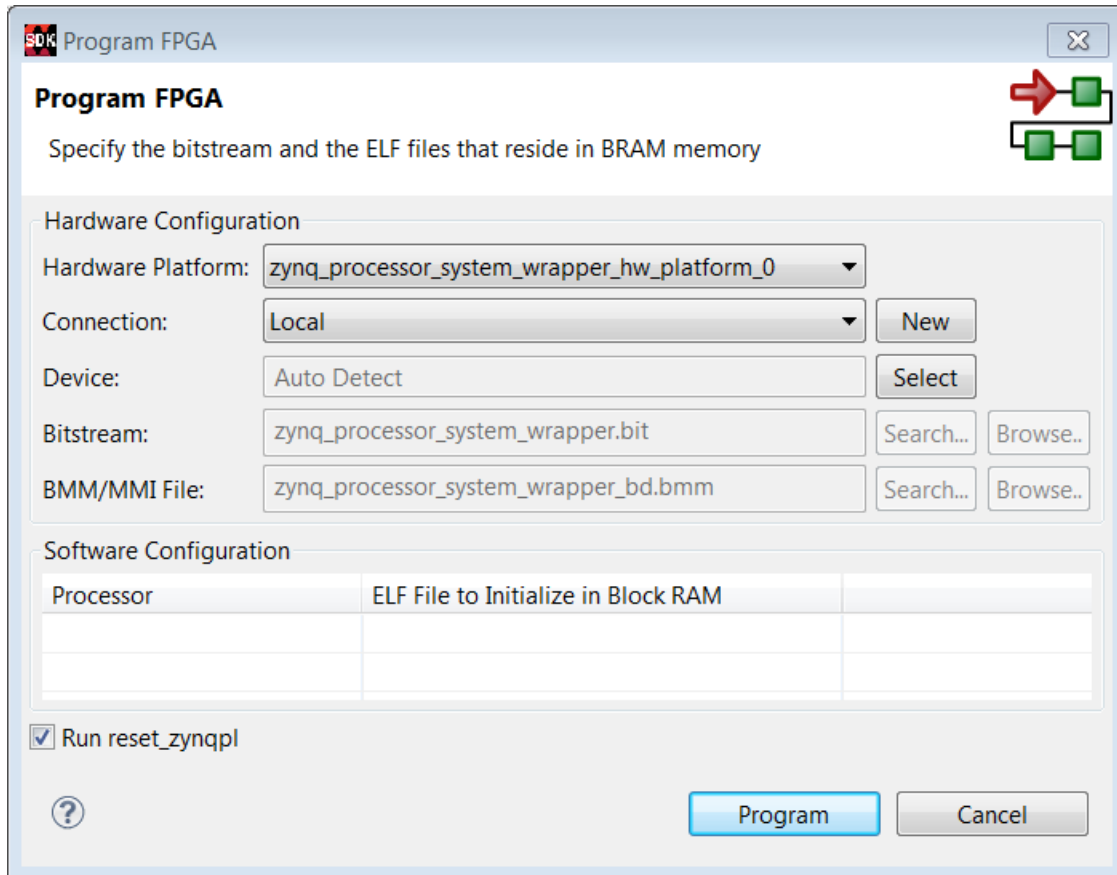

Figure 74: Program FPGA Dialog Box
7. In the **Program FPGA** dialog box, make sure that the path to the bitstream is specified correctly (**FIGURE 74**).